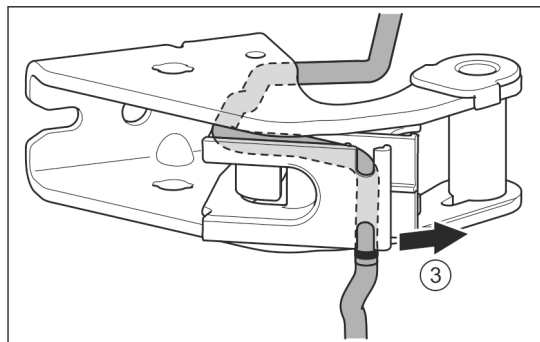

Fig. 25
- ▶ Remove the cable from the guide. *Fig. 25 (3)*